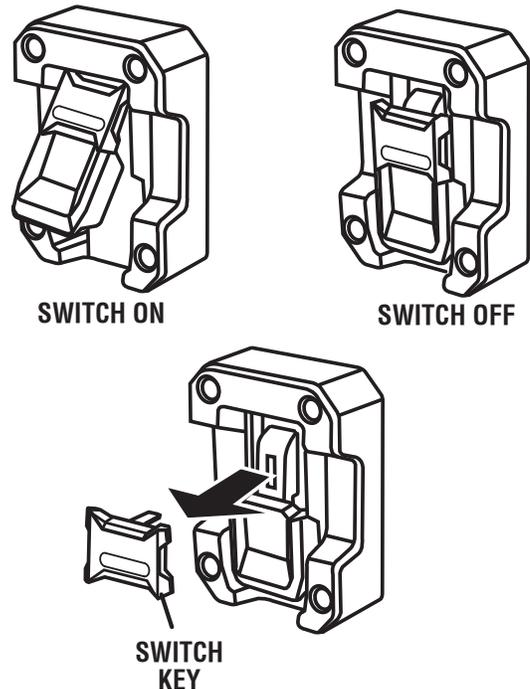

Fig. 45
**NOTE:** To prevent unauthorized use, remove the switch key as shown in figure 45.